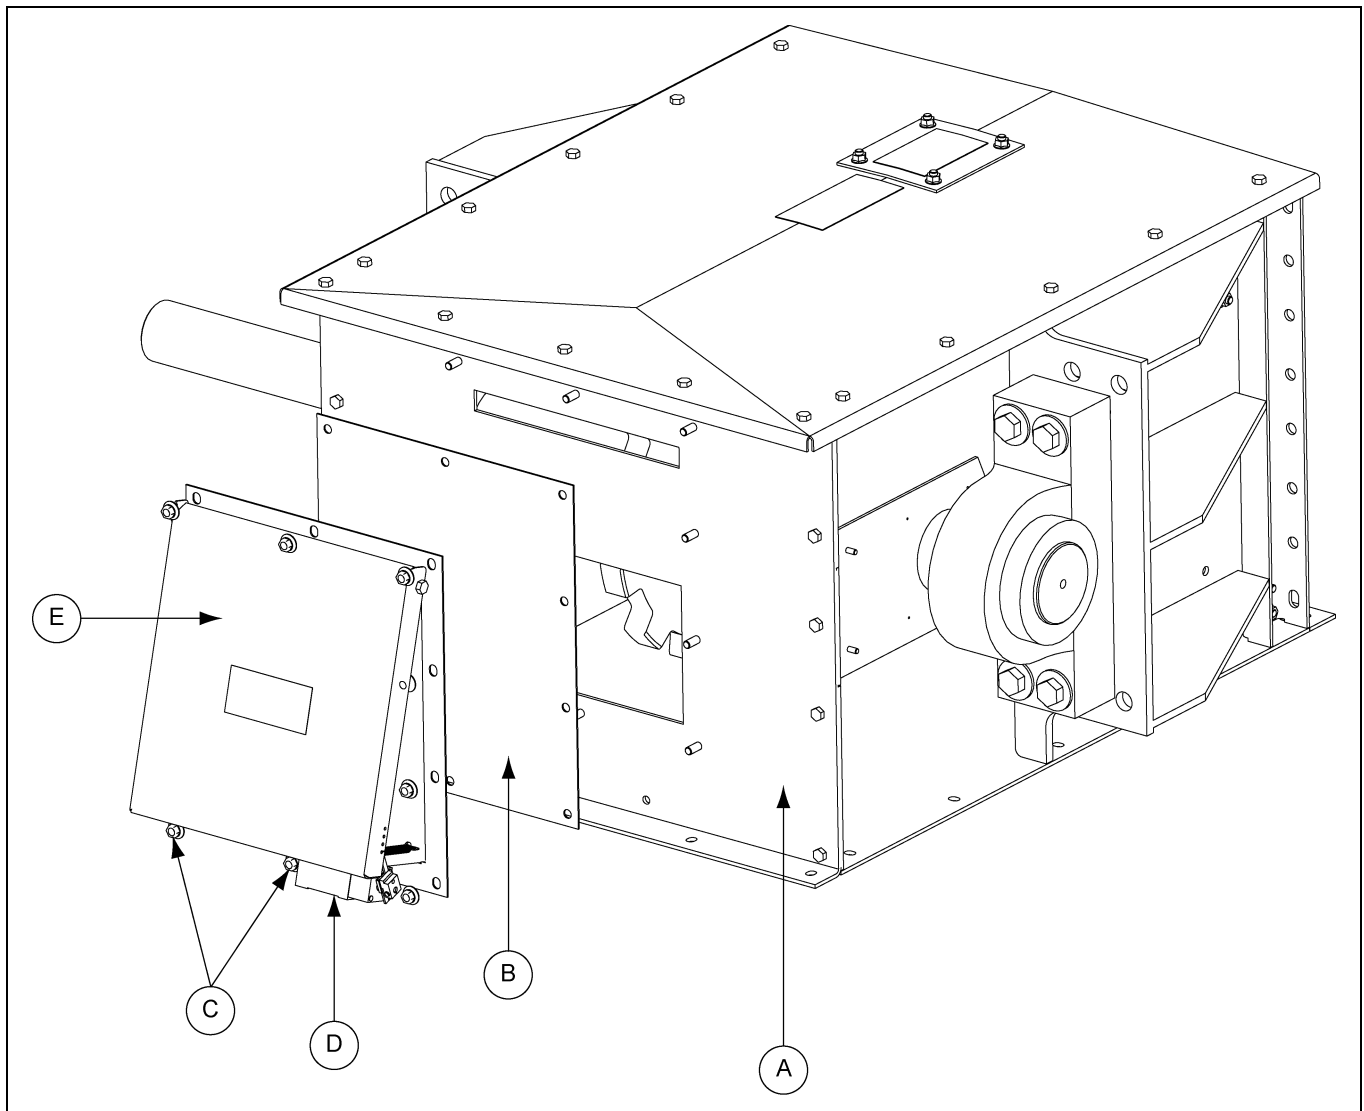

Figure 10B 20 Inch Tall Plug Relief Door without Head Gate
1. Remove the cover plate (B) from the end channel (A) by removing the flange nuts, retain the nuts for re-use.
2. Install the overflow relief door oriented as shown using flange nuts. (*See Figure 10B on Page 45.*)
4. Limit switch (D) trigger adjustments can be made by removing and re-installing the lever arm in a different clockwise or counterclockwise orientation or by adjusting the length of the lever arm. (Refer to the manufacturers supplied instruction sheet for the window of operation.)
5. Overflow relief doors (E) come supplied with a tension spring to prevent false triggers due to reasons other than material build-up (such as positive pressure venting, spring fatigue, etc.). Tension can be adjusted to a stronger setting if necessary by moving the spring end to a higher hole location on the door.
2. Install the plug relief door (A) oriented as shown using flange nuts. *(See Figure 10B on Page 45.)*